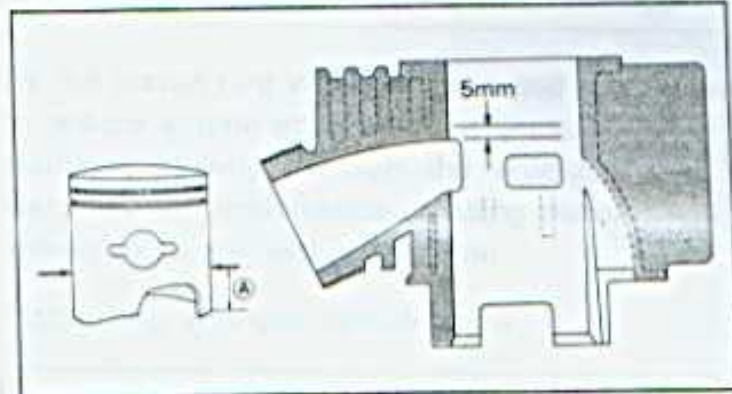

Fig. 2-52
Cylinder-to-piston clearance is the difference between piston diameter and bore diameter, read the elevation indicated in Fig. 2-52.
Referring to Fig. 2-52, be sure to take the measured diameter at right angles to piston pin. The value of elevation (A) is prescribed to be 11 mm.
The elevation at which the bore diameter is to be read is about 5 mm above the exhaust port, Fig. 2-52.